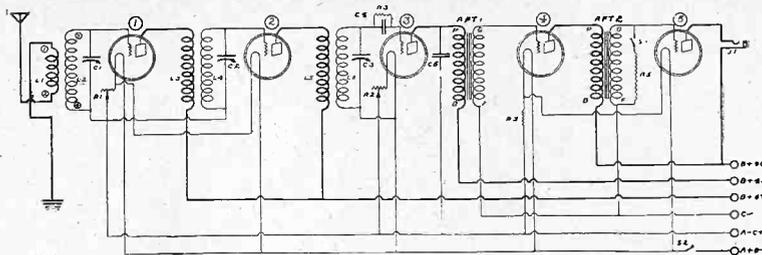

FIG. 346
(1)—The primary consists of 10 turns. The secondary consists of 65 turns. Use No. 22 double cotton covered wire. (2)—Fig. 346 shows the electrical diagram of a set along the lines as you described. The audio portion is different. However, by following this description, you may obtain the wiring directions of the resistance AF stages. The wiring description of the RF and detector portion of the set can be obtained from the answer to Joyce Lucke's query. The plate post of the detector or third tube is brought to one terminal of a .1 megohm fixed resistor and to one terminal of a .001 mfd. fixed condenser, C5. The other terminal of the resistance is brought to the B plus 67½-volt post. The P post of this same socket also is brought to the one terminal of a .25 mfd. fixed condenser. The other terminal of this condenser is brought to one terminal of a .1 megohm resistor and to the grid post on the fourth socket. The other terminal of this resistance is brought to the A minus post on the strip. The plate post on the fourth socket is brought to one terminal of a .1 megohm fixed resistor and to one terminal of a .25 mfd. fixed condenser. The other terminal of this resistor is brought to the B plus 135-volt post. The other terminal of the .25 mfd. fixed condenser is brought to the grid post on the fifth socket and to one terminal of a .5 megohm fixed resistor. The other terminal of the fixed resistor is brought to the A minus post on the strip. The plate post on this fifth socket is brought to a terminal of a .1 megohm fixed resistor and a terminal of another .25 mfd. fixed condenser. The other terminal of this fixed resistor goes to the B plus 135-volt post. The other terminal of the fixed condenser goes to the grid post on the last socket and to a terminal of a .25 megohm fixed resistor. The other terminal of this resistor is brought to the minus post of a 6-volt C battery. The plate post of this socket is brought to the top terminal of a single circuit jack. The bottom terminal of this jack is brought to the B plus 135-volt post. Now all the F plus, as well as the F minus posts are connected together. The common negative terminal is brought to a terminal of a 3/4-ampere ballast resistor. The other terminal of this ballast resistor is brought to the A minus post on the strip. The plus terminals are brought to one terminal of the switch S2. The other terminal of this switch is brought to the A plus, B minus post on the strip.
Fig. 346 shows the electrical diagram of this receiver. The primaries, L1, L3 and L5 consist of 10 turns. The secondaries, L2, L4 and L6, consists of 65 turns wound on a form 2 3/4" in diameter. Fifteen dowel sticks are employed. These are 1/4" in diameter. The under two and over two method of winding is employed. No. 22 double cotton covered wire is used. C1, C2 and C3 are .0003 mfd. variable condensers. If you wish to use .0005 mfd. variable condensers, then the secondaries should consist of 55 turns. R1 is a 10 ohm rheostat. R2 is a 15 ohm rheostat. R3 is a 1/2 ampere ballast resistor. R5 is a high resistance rheostat (0 to 5 megohms). C4 is a .00025 mfd. fixed condenser. R3 is a 2 megohm grid leak. C5 is a .001 mfd. fixed condenser. AFT1 and AFT2 are both low ratio type audio frequency transformers. S1 is a single throw, single pole, or simple filament switch. S2 is a filament control switch. J1 is a single circuit jack. The radio frequency transformers may be placed on the end plates of the condensers or on angle irons mounted directly on the baseboard. When mounted, the second RFT should be mounted erect, with the windings of the other two RFT bending away from each other, (V shape formation). The primary windings may be wound in the regular fashion, e. g., 1/4 or 1/8" separation between the primary and the secondary windings, or 27 turns of the secondary are first wound, then 10 turns of the primary winding and 10 turns of the secondary winding are wound. This is followed by the remaining 28 turns of the secondary winding. A 7x24" panel can be used. The rheostat can be placed in between the condensers. The switches can be placed at the extreme bottom portions of the panel. The single circuit jack can be placed underneath the dial on the shaft of the second variable condenser. Now as to the wiring. The beginning of the primary winding, indicated by 1, in L1, is brought to the ground post. The end of this winding, indicated by 2, is brought to the antenna post. The beginning of the secondary winding, indicated by 3 in L2, is brought to the grid post on socket 1 and to the stationary plates of the variable condenser, C1. The end of this winding, 4, is brought to the rotary plates of C1 and to the arm of R1, which incidentally also goes to the A minus C plus post on the strip. The beginning of the primary winding, L3, is brought to the plate post on the first socket. The end of this winding is brought to the B plus